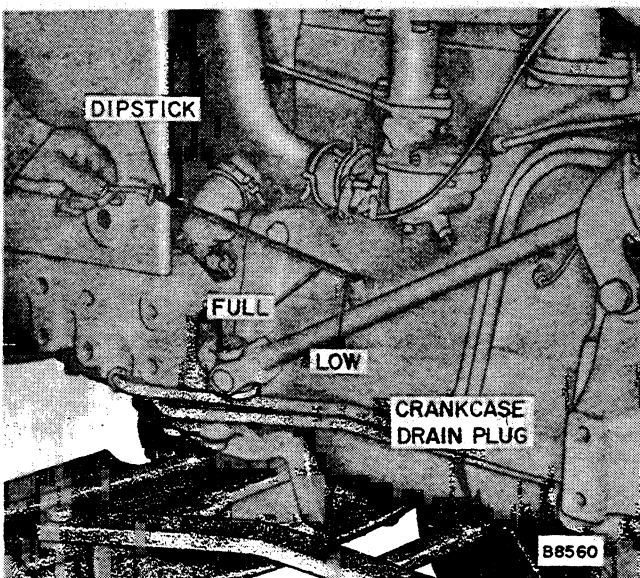

Figure 2 - Checking Oil Level (Gasoline Engine)
Check the engine oil level daily, before starting the day's work, by means of the bayonet gauge rod (dipstick), see Figures 2 and 3. The dipstick has "FULL" and "LOW" marks. Add sufficient oil through filler opening to have oil level just reach the "FULL" mark. **DO NOT OVERFILL.**
1. Drain oil, while hot, after the first 20 hours of operation; also change filter element. See Figures 2 and 3 for location of drain plug. After the initial oil change, change the oil after every 100 hours operation.